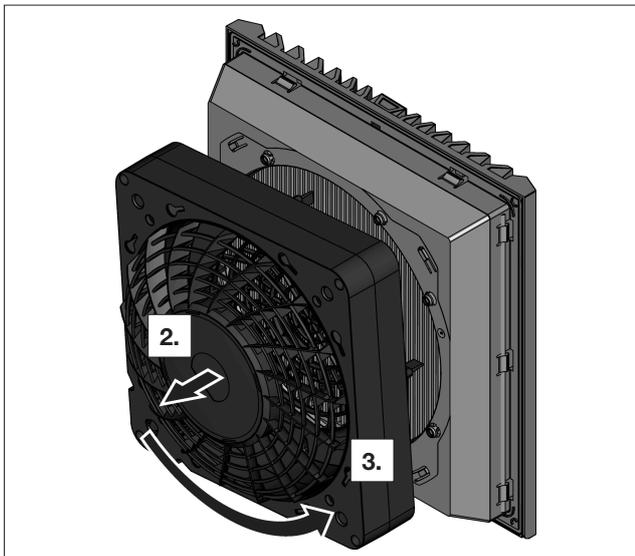

Fig. 10: Turning the fan housing
- Then turn the fan housing by 90°, 180° or 270° so that the electrical connection is in the desired position (see fig. 10).